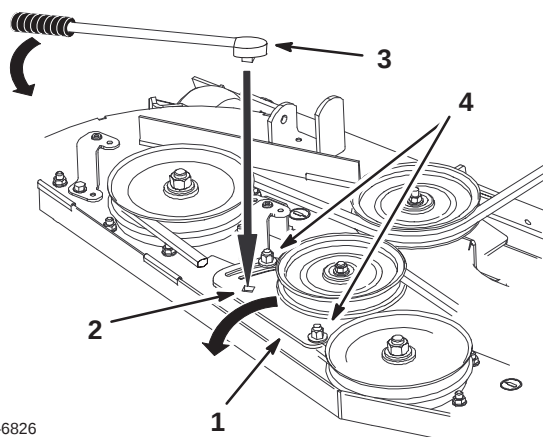

Figure 76
4. Loosen the nut securing the idler plate and move the idler plate to relieve the belt tension on the idler pulley, then remove the worn mower belt (Fig. 76).
- If adjustment is required, loosen the mower idler plate and adjust it (Fig. 76).
- Insert a ratchet or breaker bar into the square hole in the mower idler plate to adjust the tension (Fig. 76).
- To increase belt tension, rotate the mower idler plate until resistance is felt and rotation stops. Do not go past when it stops (Fig. 76).
- Tighten the idler plate bolts (Fig. 76).
10. Adjust the belt tension and the idler plate, if necessary, and tighten all hardware securely (Fig. 76).